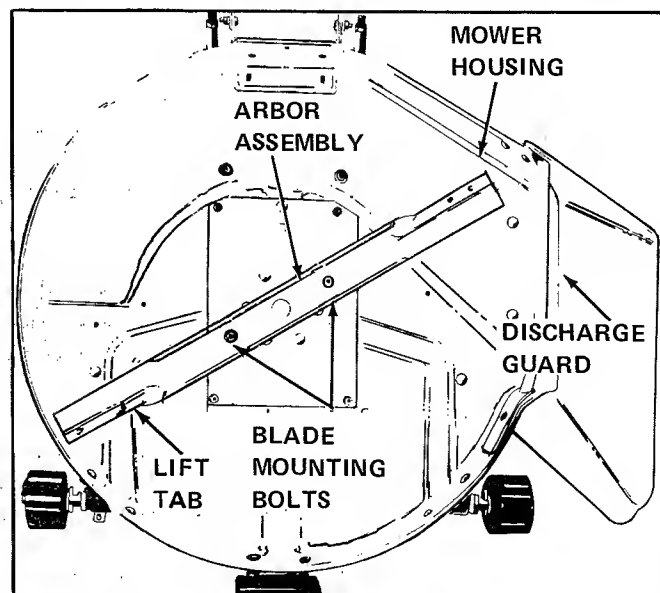

Figure 17.
6. See Figure 17. Carefully clean blade and part of arbor that blade fastens to. Install new or sharpened blade with the lift tabs on blade end turned toward top of mower housing. The blade mounting bolts should be tightened to 30- foot -pounds of torque.